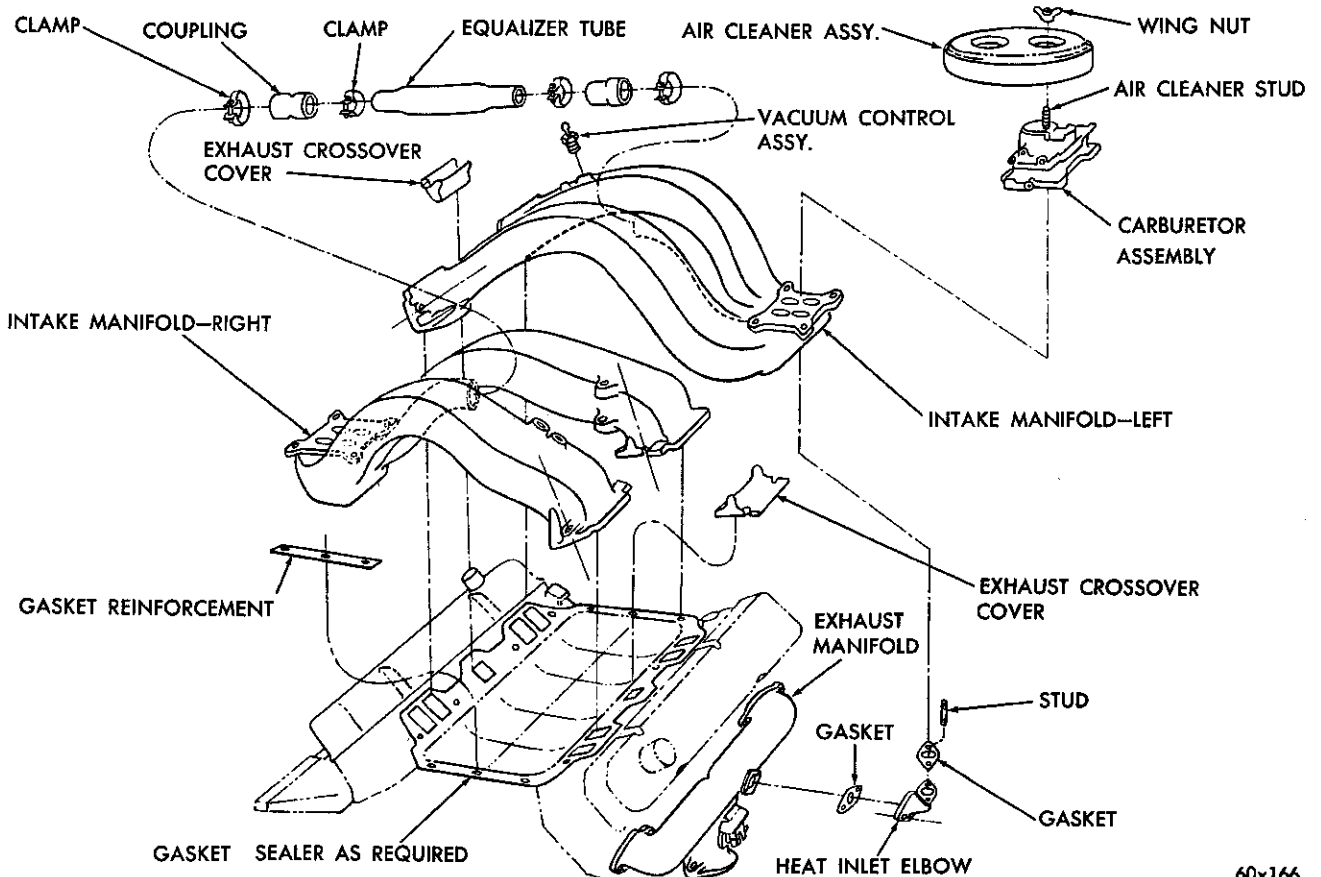

Fig. 2—Fire Power Manifold (Disassembled)
**Removal (Fig. 2)**
- (1) Drain the cooling system.
- (2) Remove the carburetor air cleaners.
- (3) Disconnect the fuel line between the fuel pump and the left hand carburetor.
- (4) Disconnect the fuel line between the left and right hand carburetor. Disconnect the choke control.
- (5) Disconnect the vacuum line between the right hand carburetor and the distributor.
- (6) Remove the high tension coil wire.
- (7) Disconnect the throttle linkage at both carburetors and the bell crank, to the accelerator shaft.
- (8) Loosen the clamps that attach the equalizer tube couplings to the manifolds, and to the equalizer tube. Slide either coupling inward on the tube far enough to clear the manifold tube opening. Lift the equalizer tube, couplings and clamps up and away from engine.
- (9) Disconnect the power steering hoses (if so equipped) at the pump and secure against the fire wall.
To install the left hand intake manifold, refer to Figure 2, then proceed as follows: